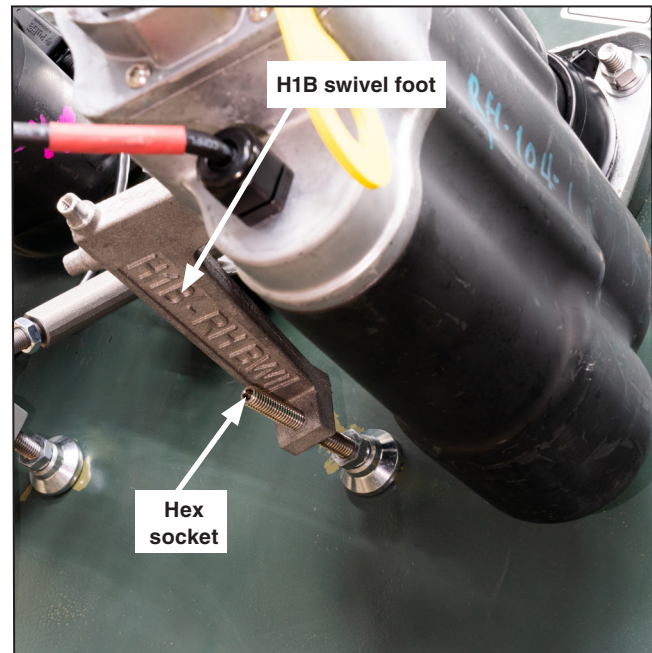

Figure 23. The hex socket at the top of the H1B bushing well interrupter swivel foot.
STEP 1. The hex socket at the top of the swivel foot is keyed for an Allen wrench. Tighten the swivel foot until it is hand tight against the transformer wall. See Figure 23.